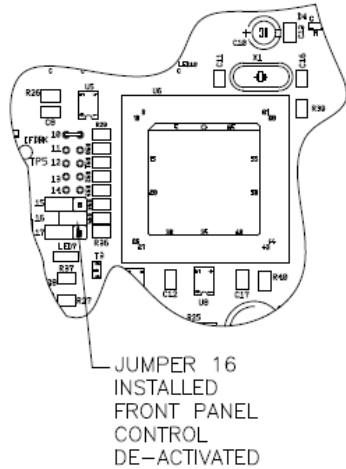

Figure 14: Jumper Location - Front Panel Lockout
3. Place the jumper across the two (2) pins at location 16 on the main PC board (See Figure 14).